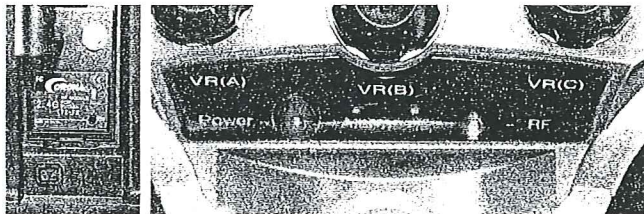

Figure 3 Futaba
3. Turn the transmitter power on and check the power indicators (See figure3)